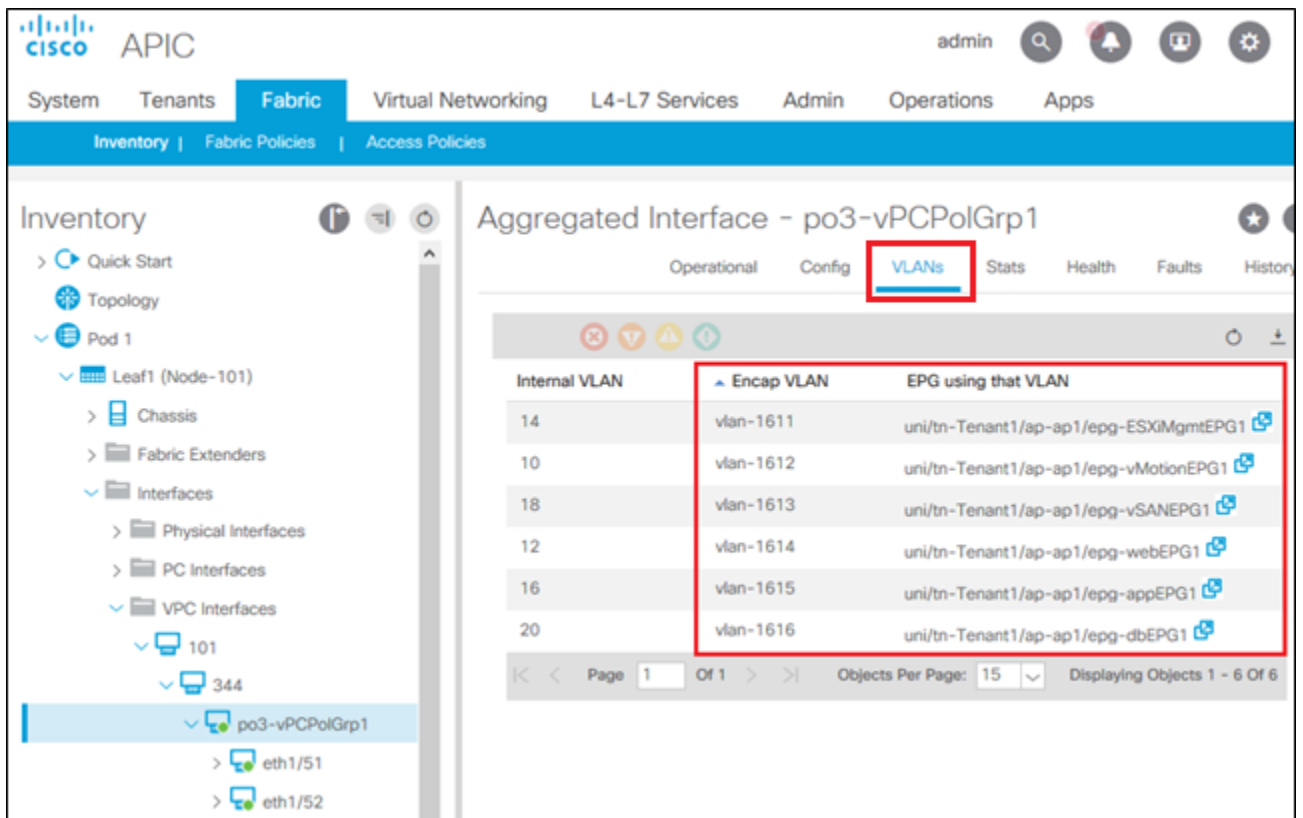

Figure 79 Cisco ACI vPC port channel VLANs and EPGs
- With the port channel/vPC interface policy group selected in the left pane, click **VLANs** at the top of the right pane as shown in Figure 79.